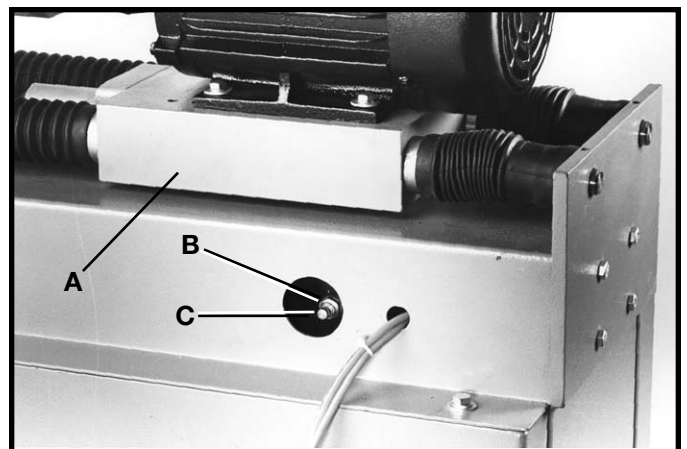

Fig. 32
The forward speed/feed rate of carriage assembly (A) Fig. 32, is governed by the air pressure. To adjust the speed/feed rate of carriage assembly (A) Fig. 32, proceed as follows:
2. Loosen locknut (B) Fig. 32, and rotate air pressure valve (C) as necessary. **NOTE:** Rotating pressure valve (C) clockwise will decrease air pressure and slow up carriage (A) movement. Rotating air pressure valve (C) Fig. 32, counterclockwise will increase air pressure and speed up carriage (A) movement.
3. Tighten locknut (B) Fig. 32, after speed/feed rate of carriage assembly (A) is made.